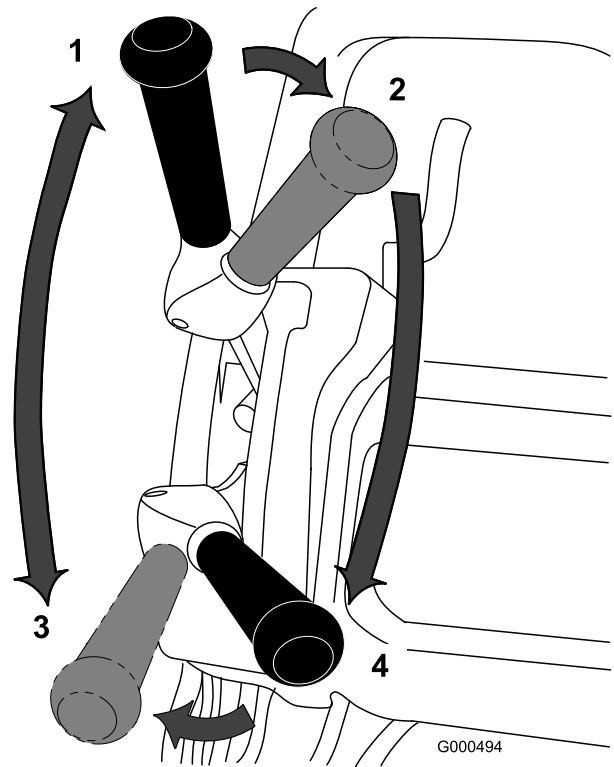

Figure 30
1. Turn on the machine, set the speed control to the Zero position, push down on the handle to raise the cutting unit, press the operator presence control, move the traction lever to the Engaged position (Figure 30), and gradually increase the speed control setting to transport the mower onto the collar of the green .
3. Disengage the traction lever, then move it to the left and forward, engaging the traction and reel drive (Figure 30).